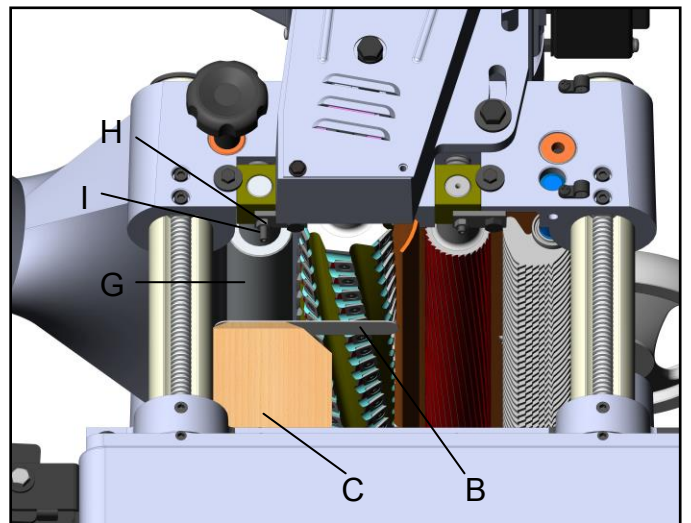

Fig. 22
5. Move the gauge block (C) under on end of the outfeed roller (G, Fig. 22). Using a 0.5mm feeler gauge (A). The bottom of the outfeed roller should just touch the feeler gauge (B). If an adjustment to the outfeed roller is necessary; loosen locknut (H) and turn screw (I) until the outfeed roller just touches the gauge block. Then tighten the locknut (H).